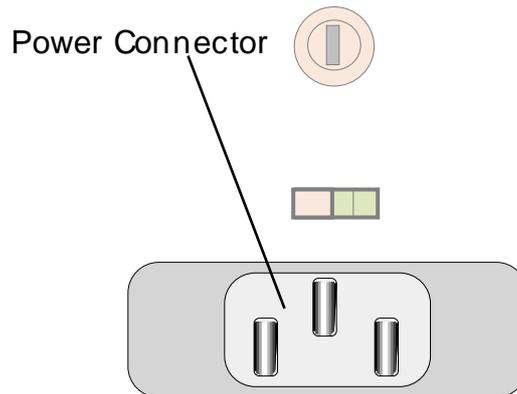

Figure 2-2. Power Connector
1. Connect the power cable supplied to the power connector on the Model 395 rear panel; see figure 2-2.